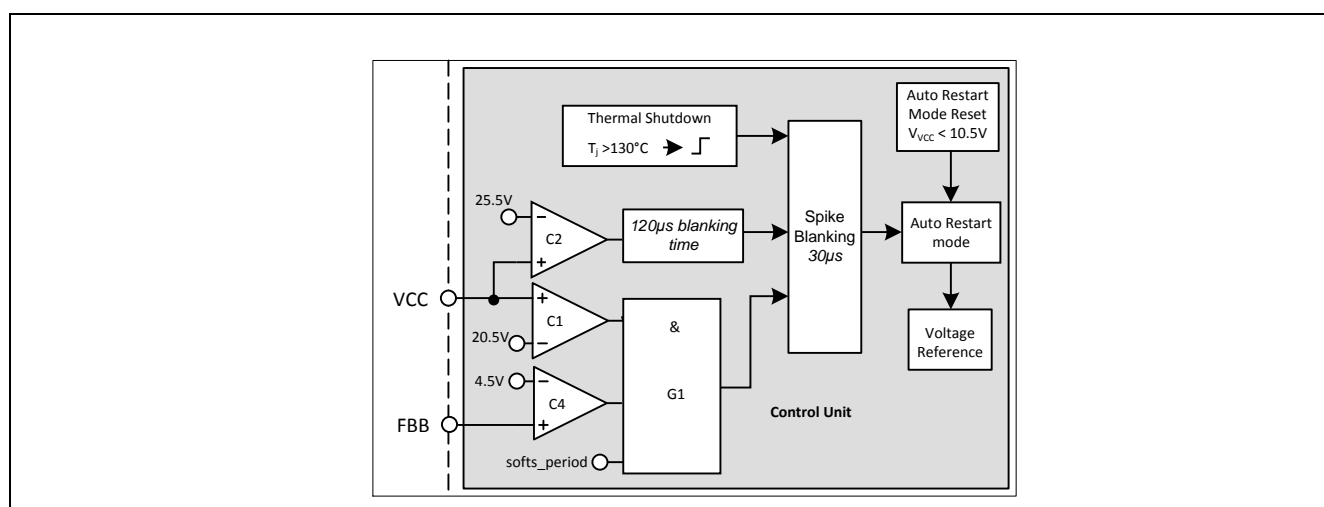

Figure 30: Vcc OVP and OTP
Vcc OVP (1) condition is when V_{VCC} voltage is > 20.5V, V_{FBB} voltage is > 4.5V and during soft start period, the IC enters into odd skip Auto Restart Mode. This condition likely happens during start up at open loop fault (Figure 30).
V_{CC} OVP (2) condition is when V_{CC} voltage is > 25.5V, the IC enters into odd skip Auto Restart Mode (Figure 30).
The over temperature protection OTP is sensed inside the controller IC. The Thermal Shutdown block keeps on monitoring the junction temperature of the controller. After detecting a junction temperature higher than 130°C, the IC will enter into the non switch Auto Restart mode. The ICE3AR1580VJZ has also implemented with a 50°C hysteresis. That means the IC can only be recovered when the controller junction temperature is dropped 50°C lower than the over temperature trigger point (Figure 30).